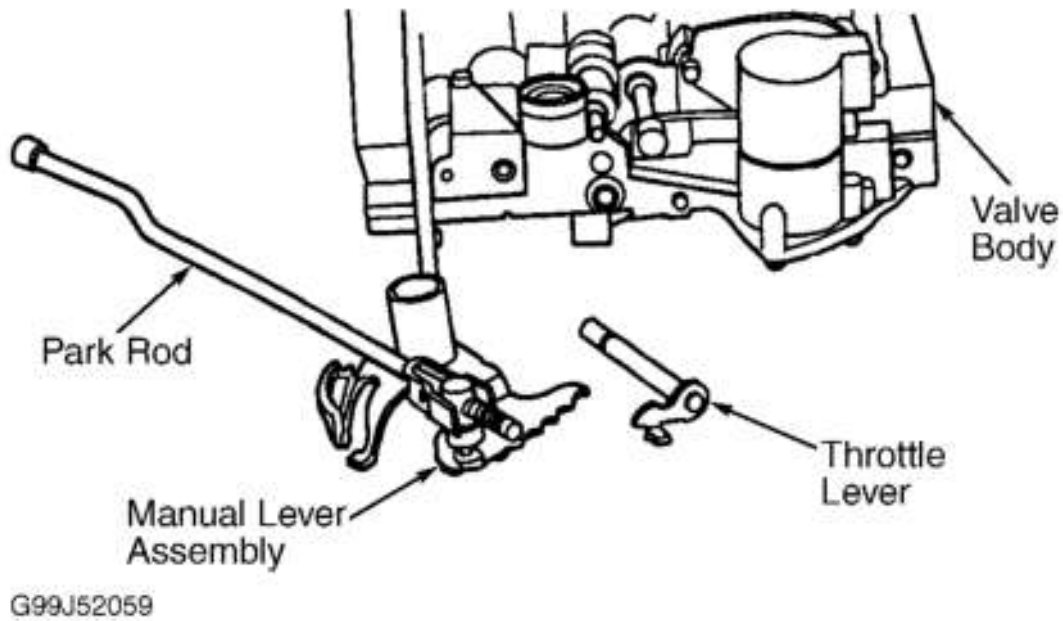
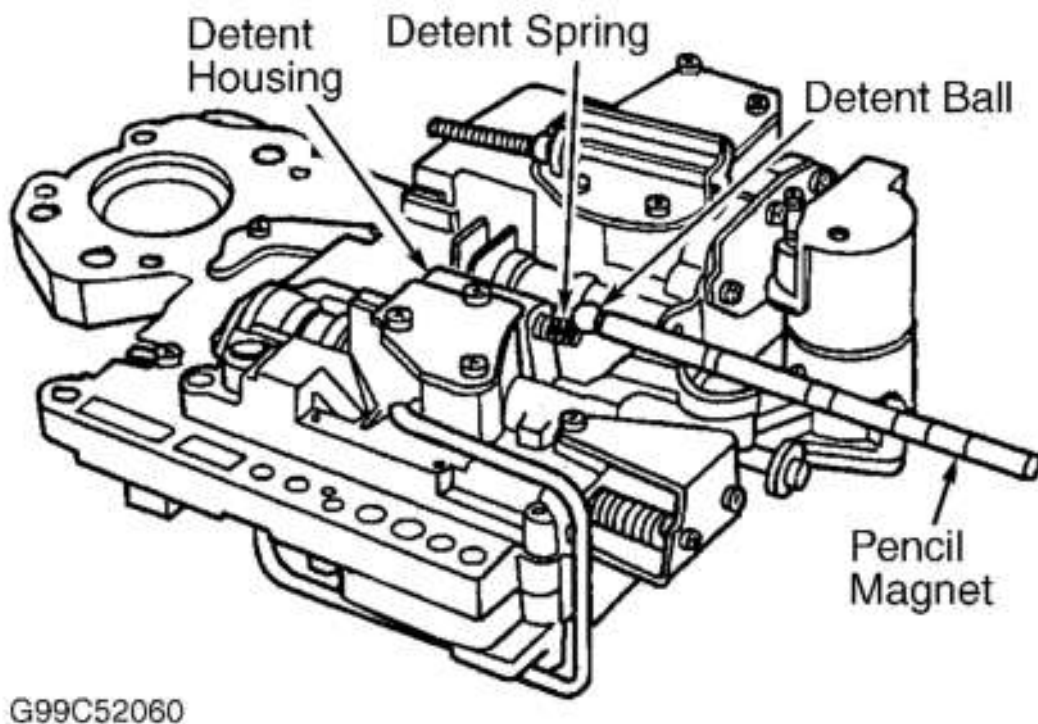

Fig. 32: Identifying Manual Lever & Throttle Lever Assemblies
Fig. 33: Removing Detent Ball & Spring
4. Remove clip and washer from throttle valve lever. Lift manual shift lever and park rod from throttle valve lever. See **Fig. 32** . Remove detent ball retainer. Remove detent ball and spring. See **Fig. 33** . Remove throttle valve lever.